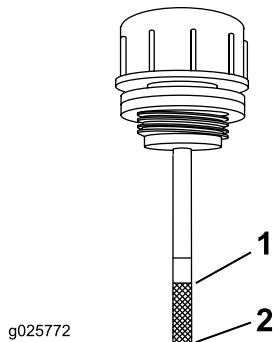

Figure 62
6. Clean the area around the dipstick of the hydraulic-system reservoir (Figure 62).
7. Remove the dipstick from the hydraulic reservoir (Figure 62).
9. Remove the dipstick and look at the end (Figure 62). If the oil level is at the add mark, slowly pour only enough oil into the hydraulic reservoir to raise the level to the full line.